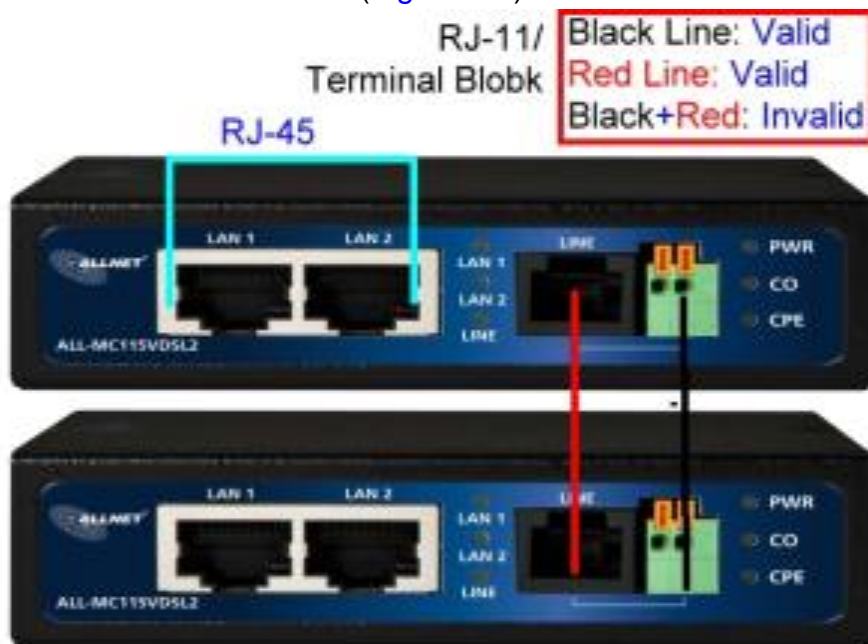
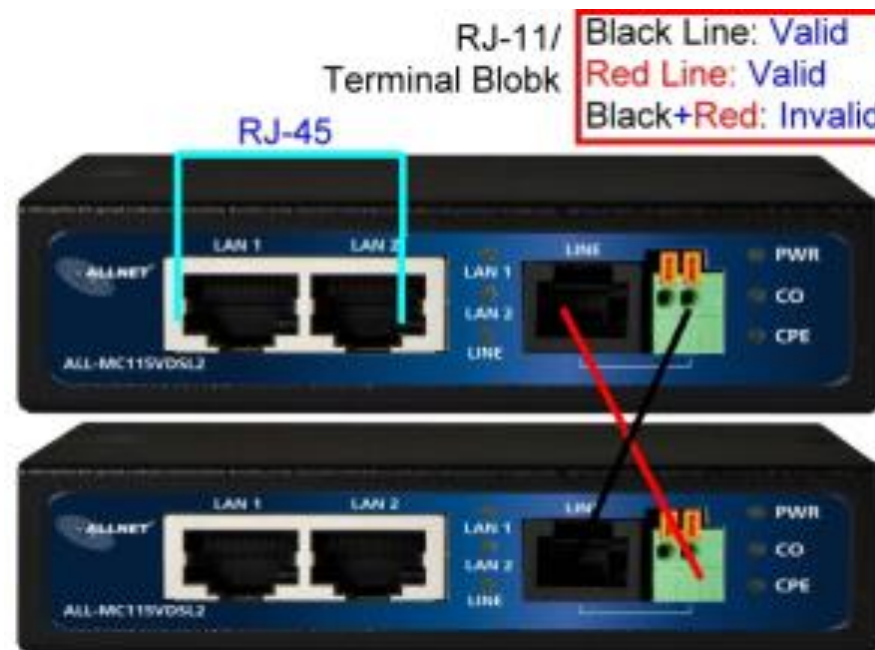

Figure 2.4 ALL-MC115VDSL2 line ports straight connection
Figure 2.5 ALL-MC115VDSL2 line ports crossover connection
- ◆ The line port has 2 connectors: RJ-45 and terminal block. It is used to connect from ALL-MC115VDSL2 (CO) using single pair phone cable to ALL-MC115VDSL2 (CPE) bridge side (point to point solution). Take note that ALL-MC115VDSL2 line port cannot be used at the same time. Either RJ-11 port is connected or terminal block is connected using straight connection (Figure 2.4) or cross-over connection (Figure 2.5)